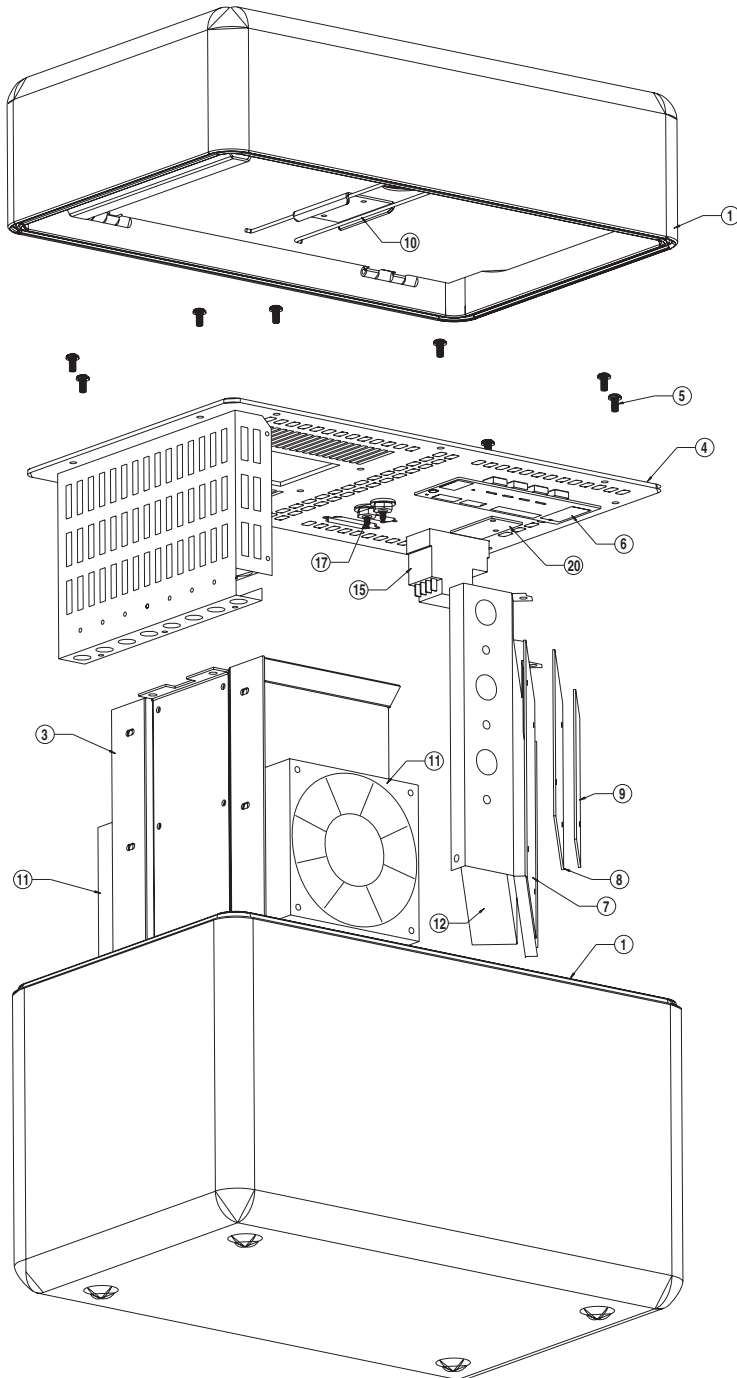

Figure 7 Side View of Cooling Block Assembly and Internal Assembly
- b. Observe the two fans on the cooling block assembly and determine which one is not functioning (see Figure 9 on page 68 and Figure 7 on page 66, item 11).